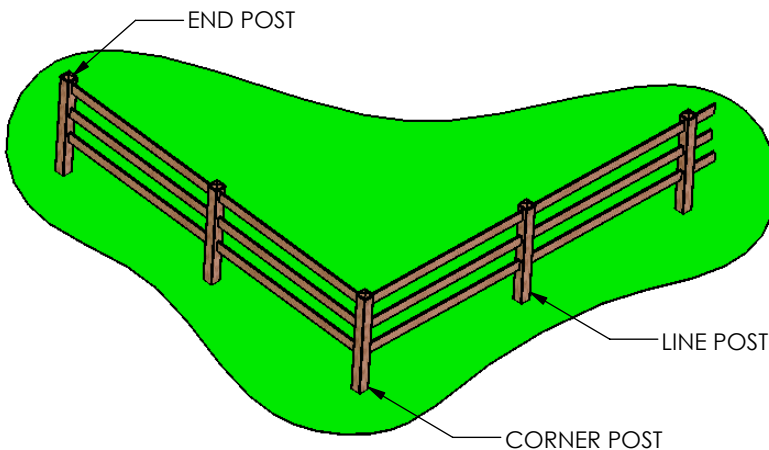

Figure 1
4. BE SURE TO SELECT THE PROPER POST TYPE AND APPROPRIATE QUANTITY OF EACH FOR YOUR PROJECT AS SHOWN IN FIGURE 1